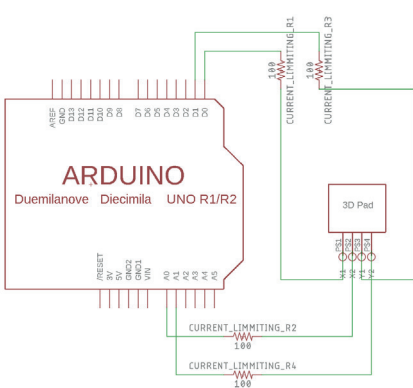

Figure 2. Interfacing 3D pad with MCU
For best results an Arduino or similar microcontroller with an analog to digital converter (ADC) module can be used to measure the position (X-Y) and relative force (Z) of touch. Figure 2 is an example schematic of a typical TPE-800 implementation for measuring position & force. The sensor pins are connected to the microcontroller as follows: